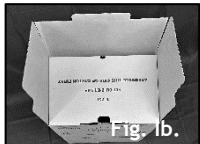

Fig. 1b.
4. Start with the flap marked "BOTTOM INNER FLAP." Fold down, tucking end into carton. (See Fig 1b.)